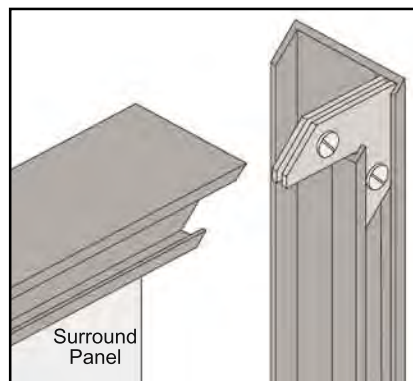
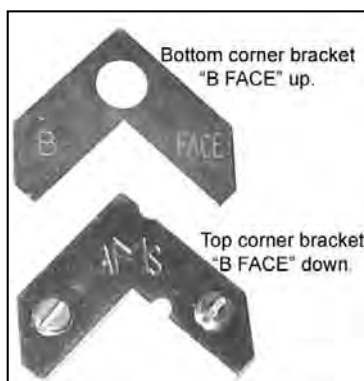

Figure 35: Corner brackets for trim.
Figure 36: Two pieces of corner bracket.
2. Attach one side trim to the top trim, using a corner bracket (see Figure 35) to secure pieces together. There are two (2) main pieces to each corner bracket (see Figure 36). When installing the corner pieces into the trim, the "B FACE" sides must face each other and the screw heads are to face out. With the bracket in place and the top and a side trim snug together, use a flat head screwdriver to turn the two (2) screws in the bracket to tighten it into the trim.